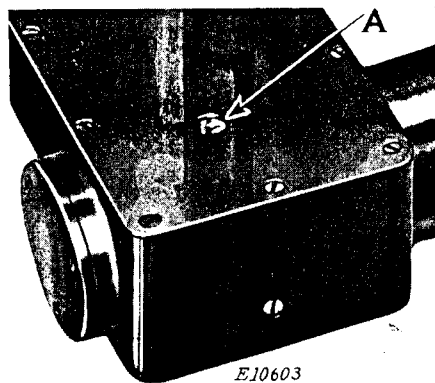

Fig. 13. Button for Changing Length of Stitch
To increase the length of stitch, press the button (A, Fig. 13) in the bed and at the same time turn the balance wheel over toward you until the desired length of stitch is obtained, then release the button (A). To shorten the stitch, turn the balance wheel over from you.